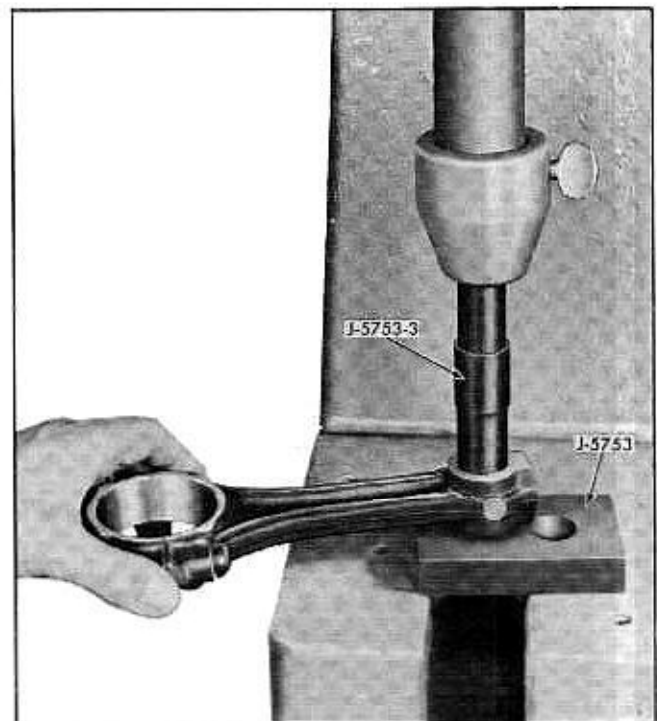

Fig. 6-62 Removing Connecting Rod Bushing
1. Press out old bushing using Bushing Remover and Installer J-5753-3 and Block J-5753 (Fig. 6-62). NOTE: For removal of bushing, the smallest diameter (third shoulder) on tool is inserted in bushing.